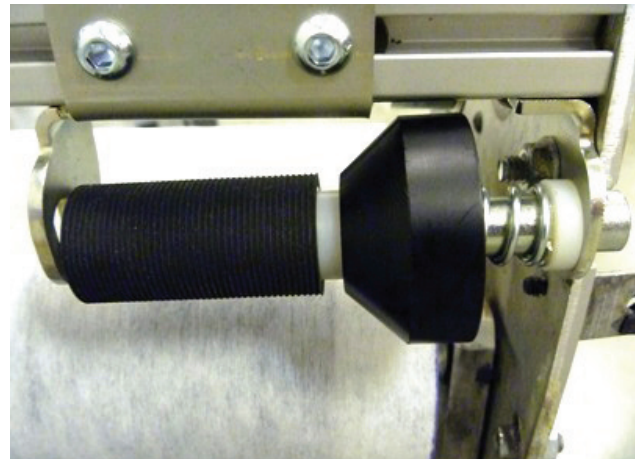

Figure 17
17. Install all shaft components as shown. Refer to *Figure 17*.